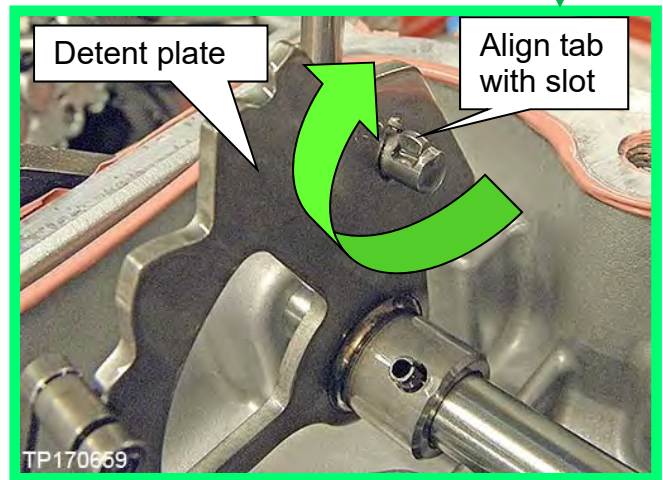

Figure 75
- Rotate the parking rod vertically to align the tab on the parking rod (Figure 75) with the slot on the detent plate and then separate from the detent plate.